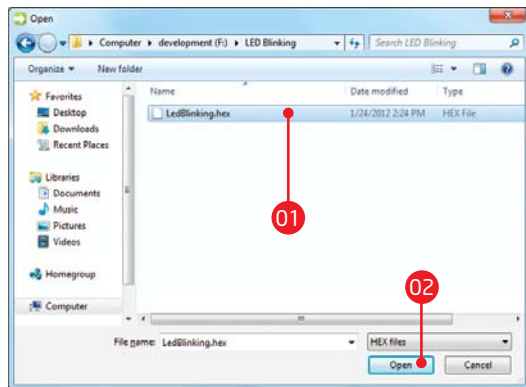

Figure 2-6: Locating and selecting .hex file
- 01 Click the **Browse for HEX** button and from a pop-up window (Figure 2-6) choose a .HEX file to be uploaded to MCU memory